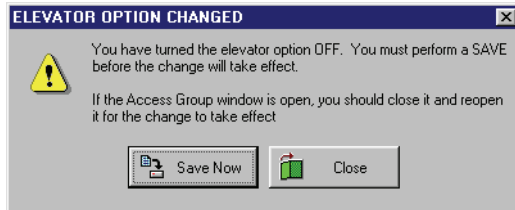
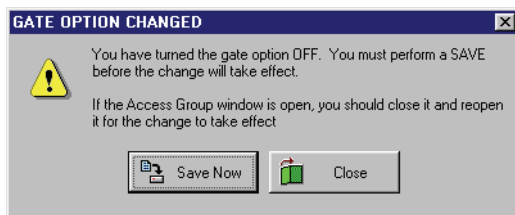

Figure 2-19: Elevator Option Changed Warning - OFF
Figure 2-20: Gate Option Changed Warning - OFF
1. To disable elevator, gate, or time and attendance terminal control, click in the corresponding check box. The check mark that was there disappears and one of the following windows appear, depending on which box was checked (see Figure 2-19, Figure 2-20, and Figure 2-21).